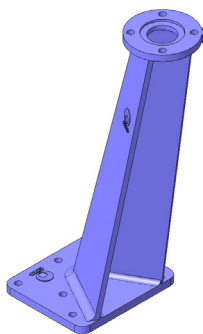

Fig.6
- Leaning floor stand (fig. 6)